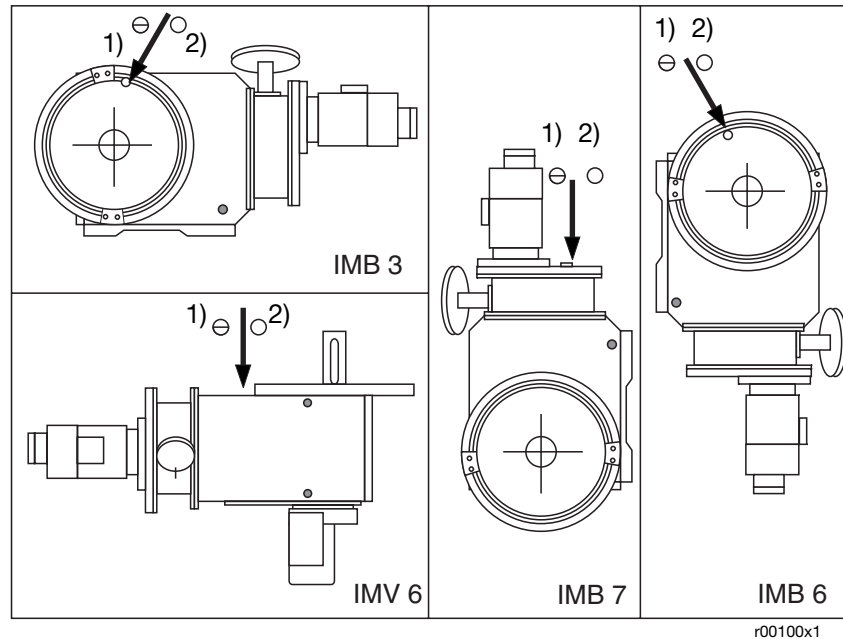

Fig. 2: Mounting position RHDE8000 / RHDE16000: 1) check plug; 2) venting plug
Mounting position	IMB3; other positions acc. to fig. 2
- open or undo the venting plug (fig. 2)
All mounting orientations shown in Figure 2 are permissible. To facilitate mounting and maintenance, however, it is recommended to use orientation IMB 3. Make sure the actuator is filled up to the required oil level (see table 2).